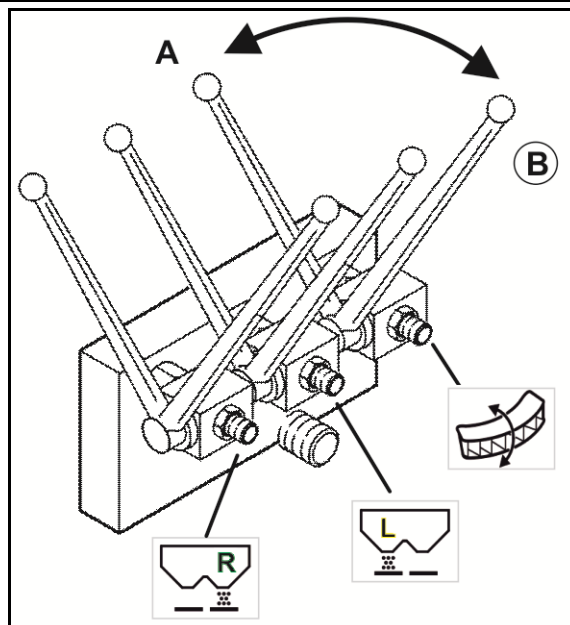

Fig. 44
2. Close the actuating lever (Fig. 44/3) for Limiter M.